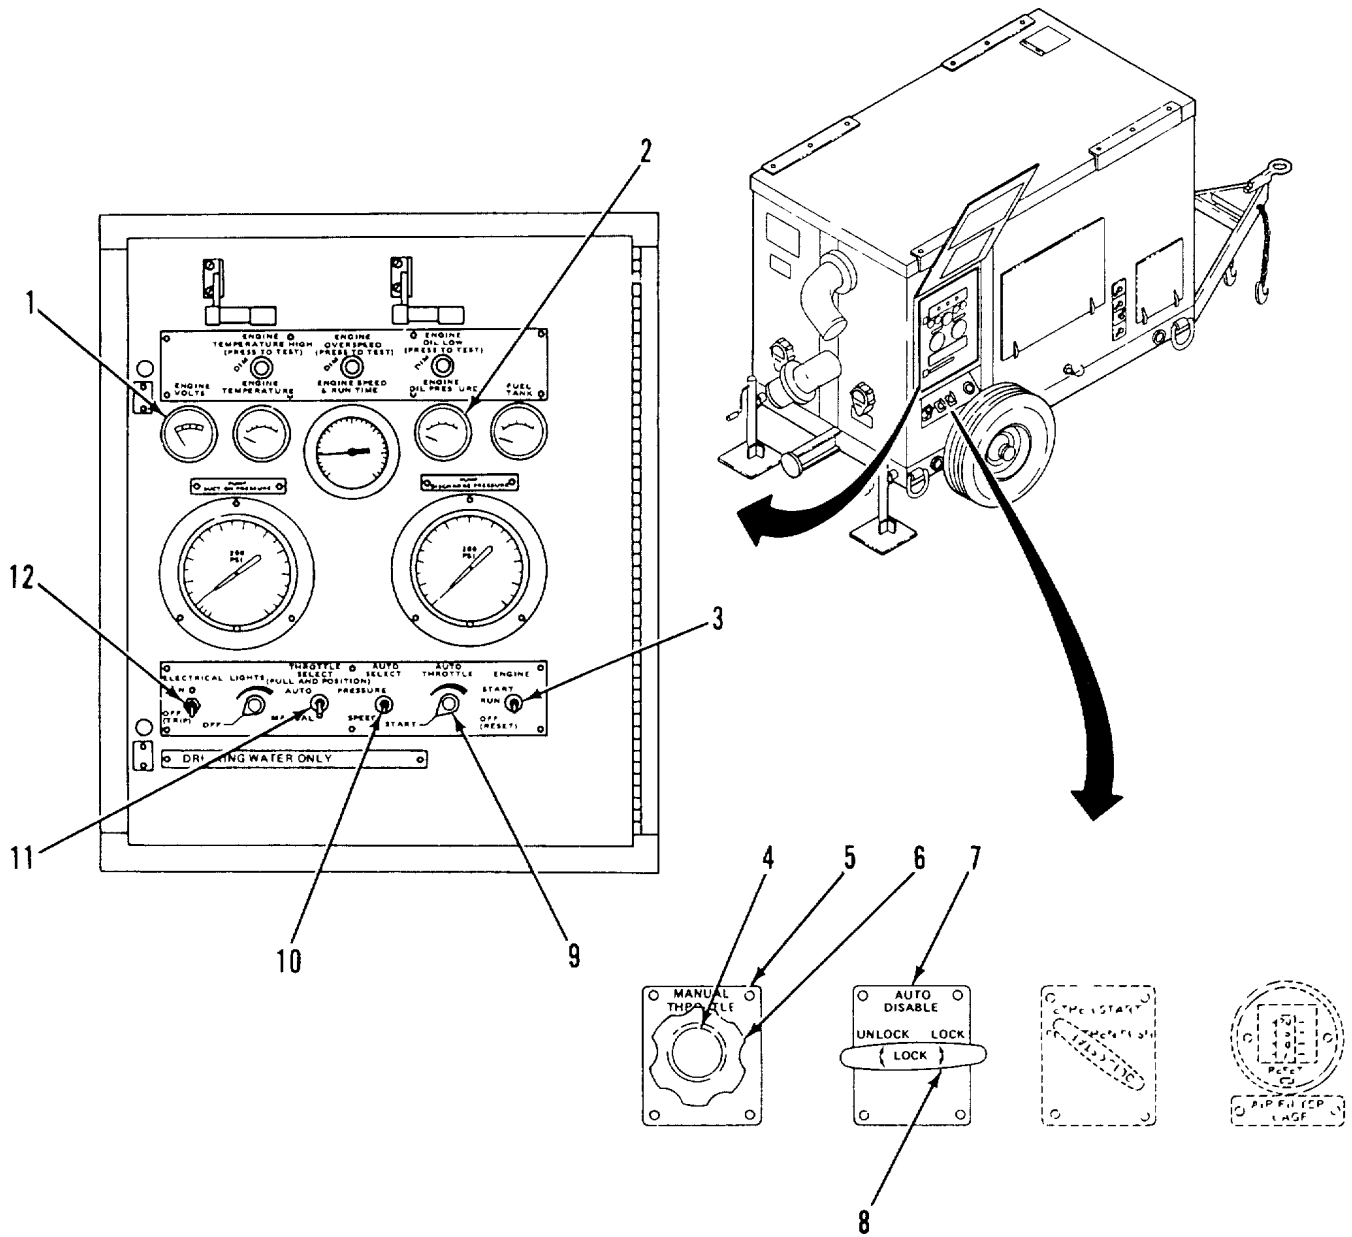

Figure 2-7. Automatic Mode Operation, Pump Speed Control
- (2) Idle engine 2 to 3 minutes to allow for temperature balance.
- (3) Set ENGINE SWITCH (3) to OFF.
- (4) Set ELECTRICAL SWITCH (12) to OFF.
- (5) Depress red button (4) to unlock MANUAL THROTTLE (5) and turn MANUAL THROTTLE knob (6) in to idle position
- (6) Close pump suction and discharge valves.
- (7) Close control panel door and air exhaust door.
- (8) Perform after (A) PMCS
e. Automatic Mode Operation (Starting, Pump Speed Control). Perform the following (Figure 2-7):
- (1) Depress red button (4) to unlock MANUAL THROTTLE (5) and turn MANUAL THROTTLE knob (6) to full run position. Then release red button (4) to lock.
- (2) Unlock and place AUTO DISABLE (7) fully in and lock by turning handle (8).
- (3) Set ELECTRICAL switch (12) to ON
- (11) Check pump suction and discharge pressures. Shut down engine if pump does not prime within 3 minutes. Refer to troubleshooting.
f. Automatic Mode Operation (Shutdown. Pump Steed Control). Perform the following (Figure 2-7):
- (1) Turn AUTO THROTTLE (9) to START position.